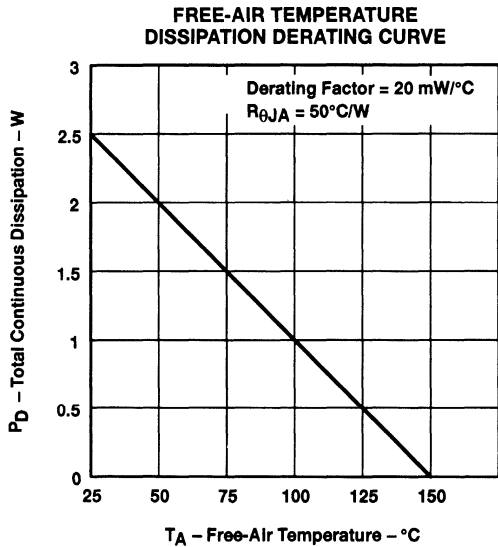

Figure 1
4. For operation above 25°C free-air or case temperature, refer to Figures 1 and 2. To avoid exceeding the design maximum virtual junction temperature, these ratings should not be exceeded. Due to variations in individual device electrical characteristics and thermal resistance, the built-in thermal overload protection can be activated at power levels slightly above or below rated dissipation.